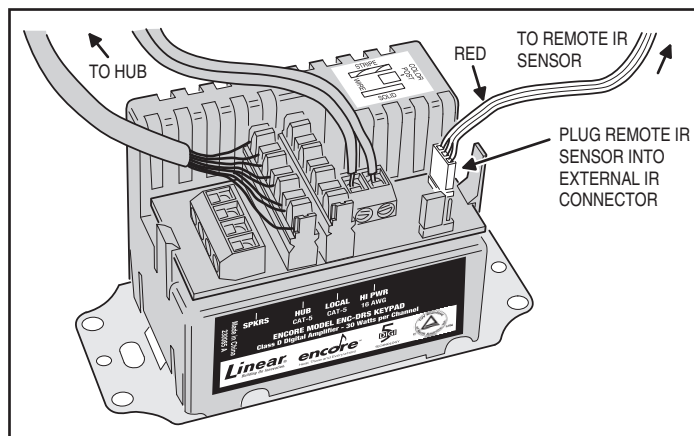

Figure 16. External IR Target Connections
4. Attach the 3-pin header block to the 3-pin **J3B** header on the keypad. Note: Red wire position (see Figure 16).